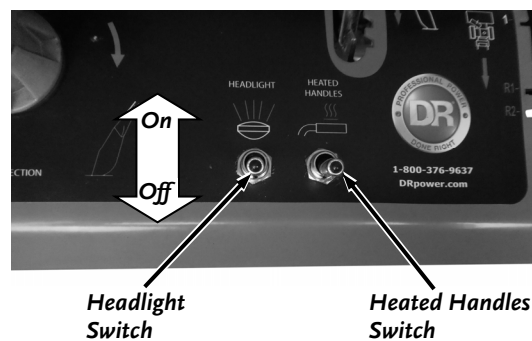

Figure 34
1. Move the Switch to the forward (ON) position to turn on the heat to the Grips (**Figure 34**).
1. Move the Switch to the forward (ON) position to turn the Headlight on (**Figure 34**).